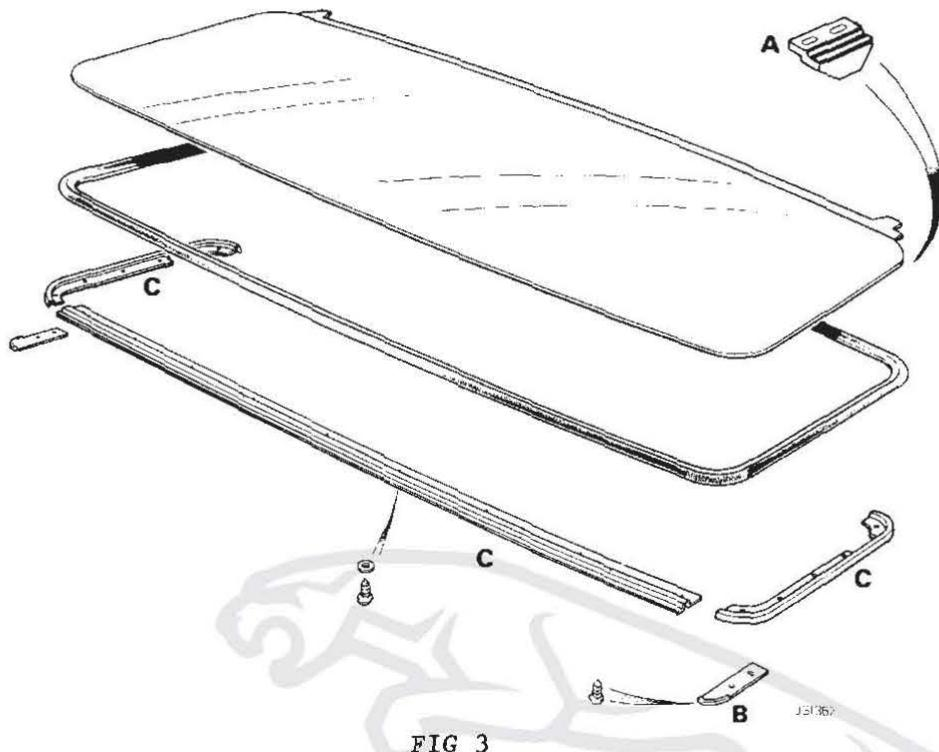

FIG 3
5. Remove the screws securing the two nylon lifting brackets and remove the brackets (A Fig 3).
6. Remove the screws securing the two wind deflector brackets and remove the brackets (B Fig 3).
7. Remove the screws and remove the seal retaining brackets (C Fig 3).